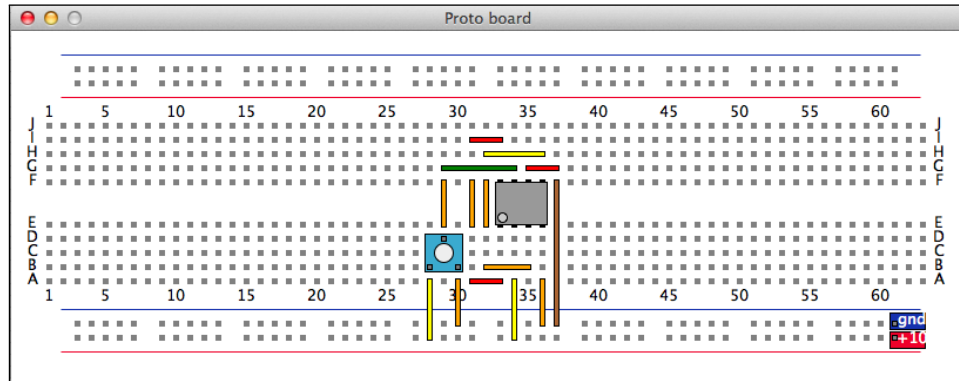

FIGURE 3. Sample output protoboard for the schematic shown in Figures 1 and 2.
3.2. Protoboard generation. When the "PB" button is pressed, Circuit Simulator outputs a protoboard that corresponds to the drawn schematic. This is only done if the schematic is a reasonable circuit schematic. If Circuit Simulator fails to generate the protoboard, a message will be output saying so. Otherwise, a protoboard like the one shown in Figure 3 will be output. This protoboard can be saved as a CMax layout by pressing File \rightarrow Save as CMax file. This allows for later analysis with CMax.